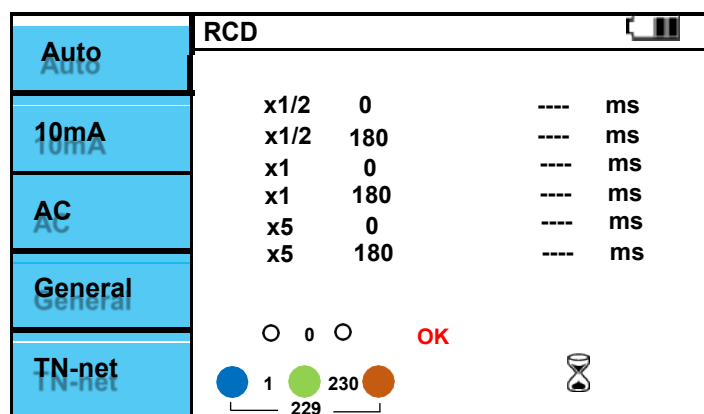

Figure 6.6.6 RCD / Auto screen.
- IV. If there is no problem with the test lead connection, "OK" is displayed as shown in Figure 6.6.6